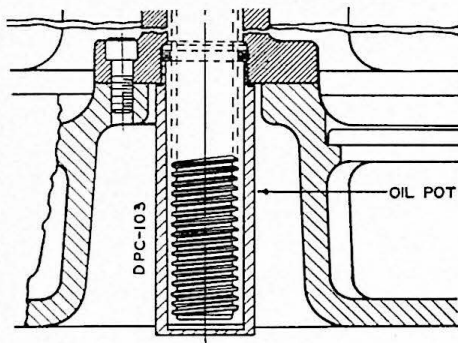

FIGURE 16
3. Remove two one-half inch hollow head cap screws that fasten vertical screw base nut to base of column. See Figure 16.
Vertical screw is lubricated by running knee all the way down. The vertical screw then displaces the lubricant in oil pot causing level to rise and lubricate threads of screw. See Figure 16. While vertical screw is removed from machine, it would be well to inspect, and refill oil pot if necessary. Proper lubricant for this is: seven parts heavy unfiltered oil (Vacuum Oil 600-W or Standard Oil 650-W) to one part Sturaco extreme pressure base, 250 seconds Saybolt at 200 degrees F. (Stuart Oil Co.) Fill oil pot to within $\frac{1}{4}$ inch of its top.